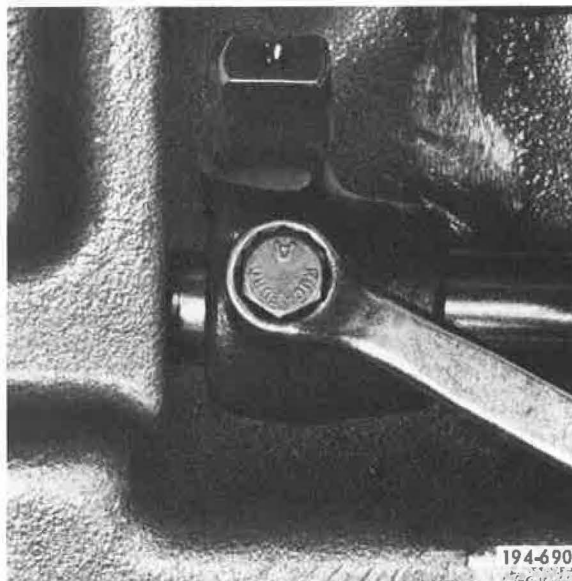

Figure 272. Installing Setscrew
22. Install reverse shifter setscrew, and tighten to 35 to 45 lb. ft. torque. Refer to Torque and Tolerance Table, Item 10. See Figure 272.